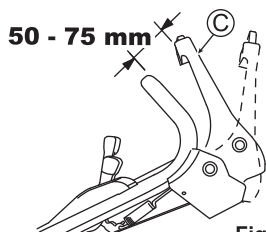

Fig. 31
Adjust so that the blade starts rotating when the distance between the blade lever (C) and the handle is 50 - 75 mm with the yellow button pressed as shown in Fig. 31.